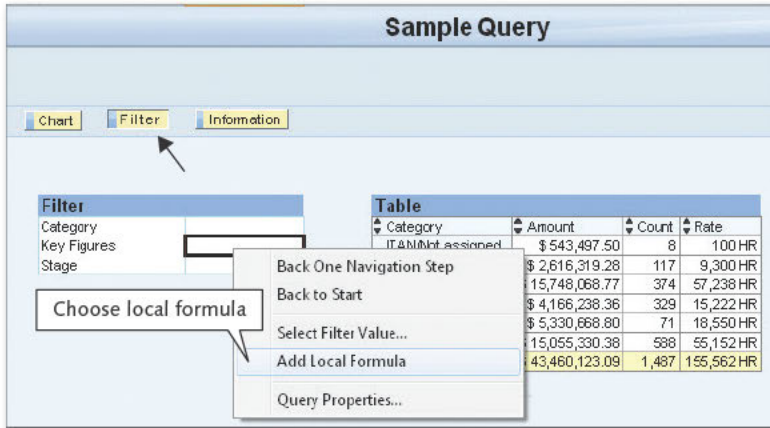

Figure 1 BEx Query Results Screen
1. Open a BEx query with a few key figures in the column. As shown in Figure 1, choose the **FILTER** button in the top, and right-click on the key figures. Choose the **ADD LOCAL FORMULA** option, and add a new local formula (e.g., Revenue).